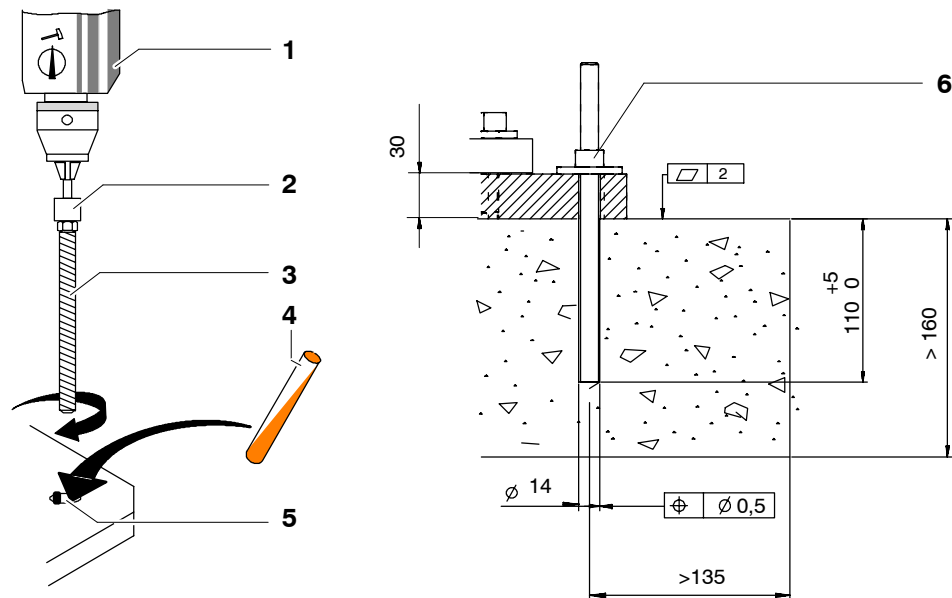

Fig. 56 Robot installation, variant 1 with capsule
- (6) Drill six anchor holes (Fig. 56/5) through the holes of the bedplates; depth in concrete 110 mm.
- (7) Clean the anchor holes by blowing them out, brushing them and then blowing them out again.
- (8) Insert six resin capsules (4).
- (9) Insert one threaded rod (3) into each anchor hole (5). To do this, secure the setting tool (2) in a hammer drill (1), attach the threaded rod, and insert it in the anchor hole at max. 750 r.p.m. The threaded rod is set correctly if the resin is completely mixed and the anchor hole in the concrete is completely filled to the upper edge. If the anchor hole is not completely filled, the threaded rod must be pulled out again immediately and a new resin capsule inserted.
- (10) Allow the resin to cure.